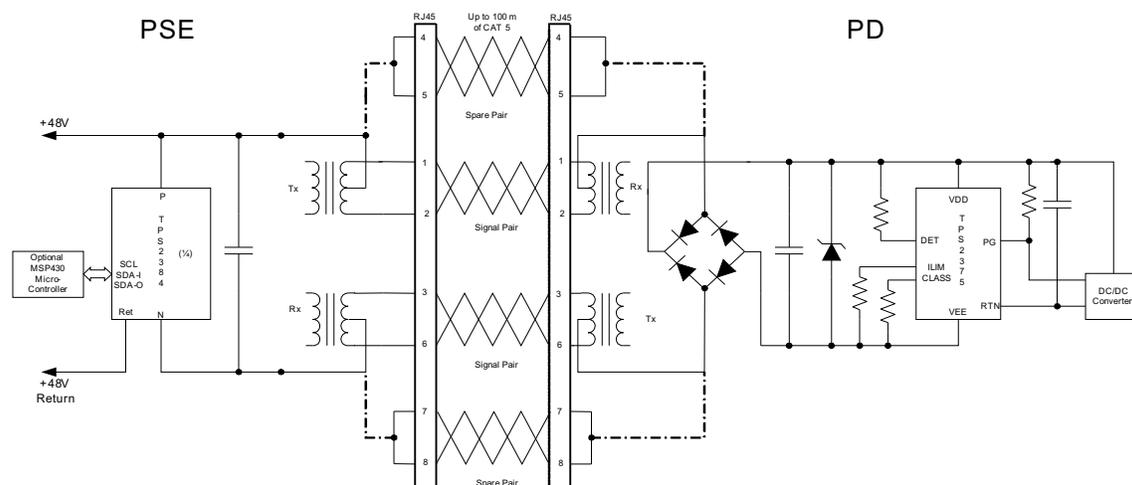

Figure 1. Typical PoE Application Diagram
The Power-over-Ethernet (PoE) technology provides electrical power via standard Cat-5 Ethernet cables, thereby eliminating the need for wall adapters or other external power sources for equipment connected in an Ethernet network. The two major components in a PoE system are the power sourcing equipment (PSE), that provides the power, and the powered device (PD), that receives and uses this power (see Figure 1).